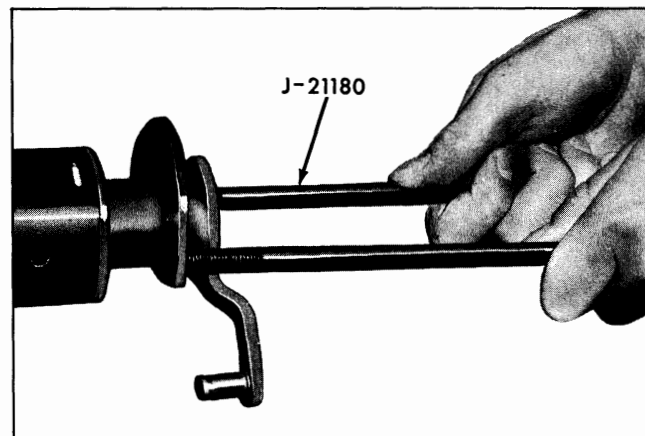

Fig. 9-28 Removing Shift Tube
28. Remove shift tube downward through column with tool J-21180, driving against lower lever (Fig. 9-28).